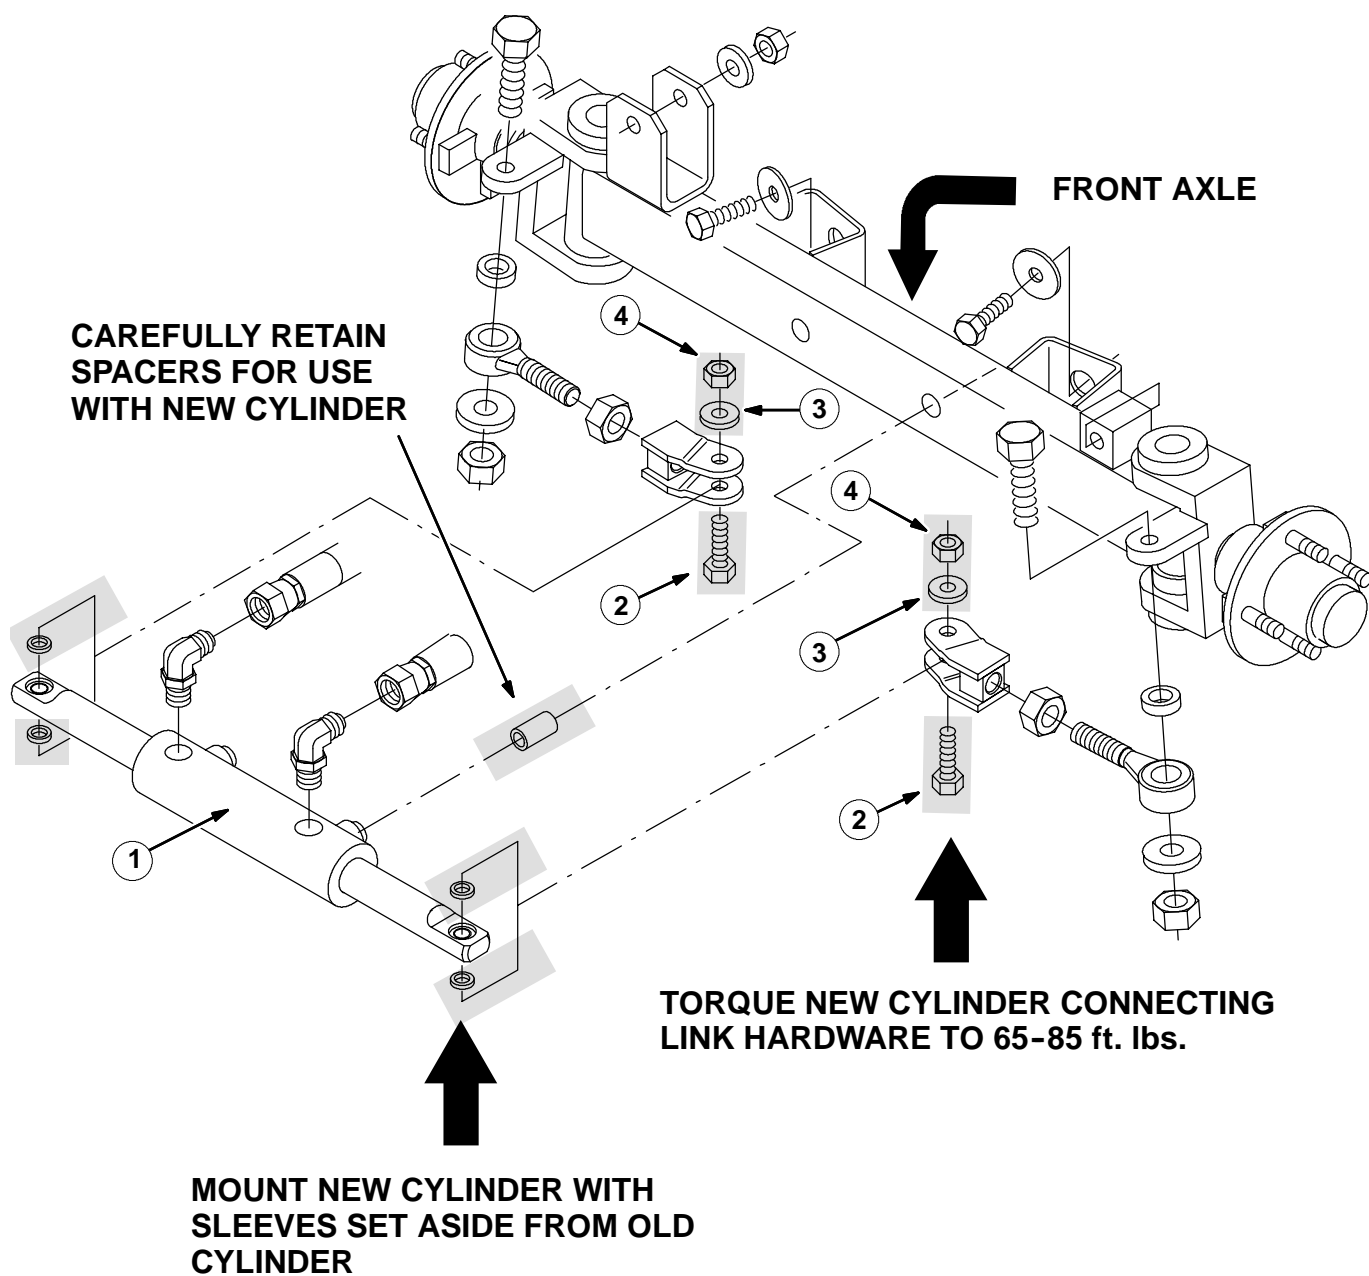

FIG. 1 - NEW HYDRAULIC CYLINDER INSTALLATION
(Refer to FIG. 1 and 2 on p. 8 and 9)
(Refer to FIG. 1, p. 8)
6. Position the new steering cylinder (1) onto the front of the front axle. Reinstall the two tube spacers, vacuum head mount plate (if equipped), and two hex screws. Tighten to 64-83 Nm (47-61 ft. lb.) (Refer to FIG. 1, p. 8)
8. Connect the ends of the new cylinder (1) to the clevis with new screws (2), washers (3), and lock nuts (4). Tighten to 90-120 Nm (65-85 ft. lbs.) (Refer to FIG. 1, p. 8)